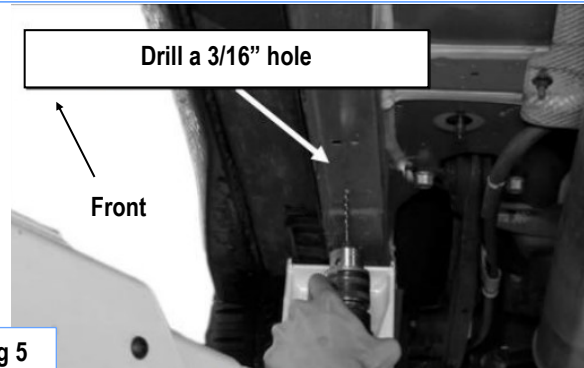

Fig 5
Remove bracket and drill a 3/16" hole on the body panel according to the mark. Enlarge the hole to 7/8" with a unibit (**Fig 5 & 6**). Suggest to paint the drilled hole with undercoating for anti-rust. And then insert (1) M10x35 Short Bolt Plate into the hole.